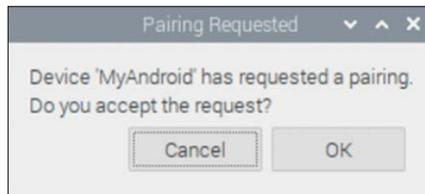

Figure 10.9 Bluetooth pairing request on Raspberry Pi
- Accept the pairing request on your Raspberry Pi 4 as shown in Figure 10.9